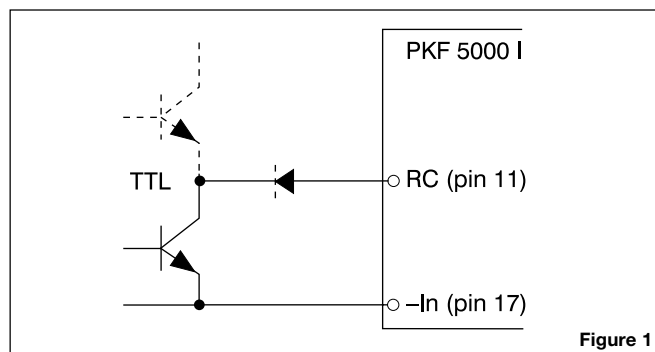

Figure 1
Turn-on or turn-off can be realized by using the RC-pin. If pin 11 is connected to pin 17 the power module turns off. Normal operation is achieved if pin 11 is open (NC) . To ensure safe turn-off the voltage difference between pin 11 and 17 shall be less than 2.0V. RC is an TTL open collector compatible output with a sink capacity >300 μ A (see fig. 1).